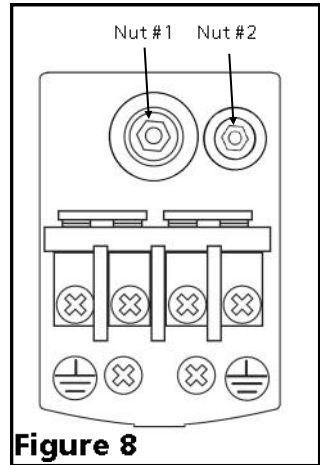

Figure 8
1. The pressure switch comes preset from the factory with a 20/40 psi setting (Figure 8).